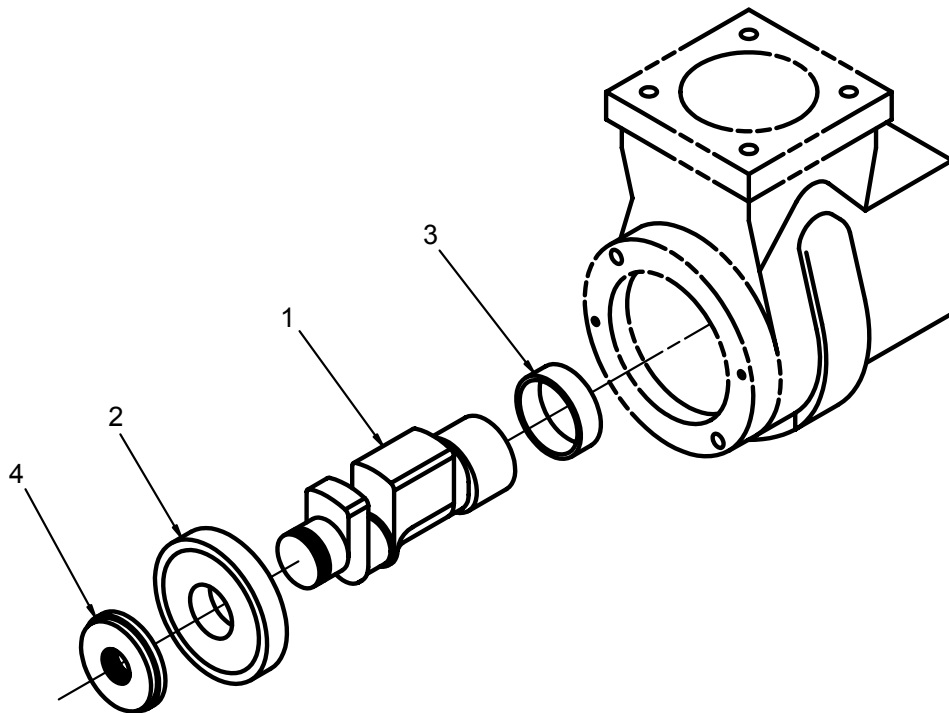

Figure I-7. Crankshaft Bearing Replacement
Crankshaft Bearing Replacement. (Refer to Figure I-7.)**NOTE**
- c. Position the crankshaft (1, Figure I-7) in the Top Dead Center (TDC) position. The gear alignment pin will also be in the TDC position. Press the crankshaft (1) with ball bearing (2) out of the rear of the crankcase. This requires approximately 3,000 pounds (1,360 kg) of force.
- d. Using a cylindrical piece of steel that is a loose fit to the crankcase bore, press the journal bearing (3) out of the crankcase toward the front. Discard the journal bearing.
- e. Clamp the crankshaft (1) by the counterweight and remove the ball bearing retaining nut (4). Removal will require a high torque in the counter-clockwise direction.
- f. Remove and discard the ball bearing (2).
- a. Press new ball bearing (2, Figure I-7) onto the rear crankshaft journal and install ball bearing retainer nut (4). Ensure the force is applied to the inner race of the ball bearing (2). Torque the bearing retainer nut from 424 to 460 ft lbs (575 to 625 Nm).